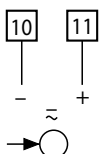

Fig. 5. Power supply connection.
Connect the power supply to terminals ⑩ (~) and ⑪ (±) as shown in Fig. 5.